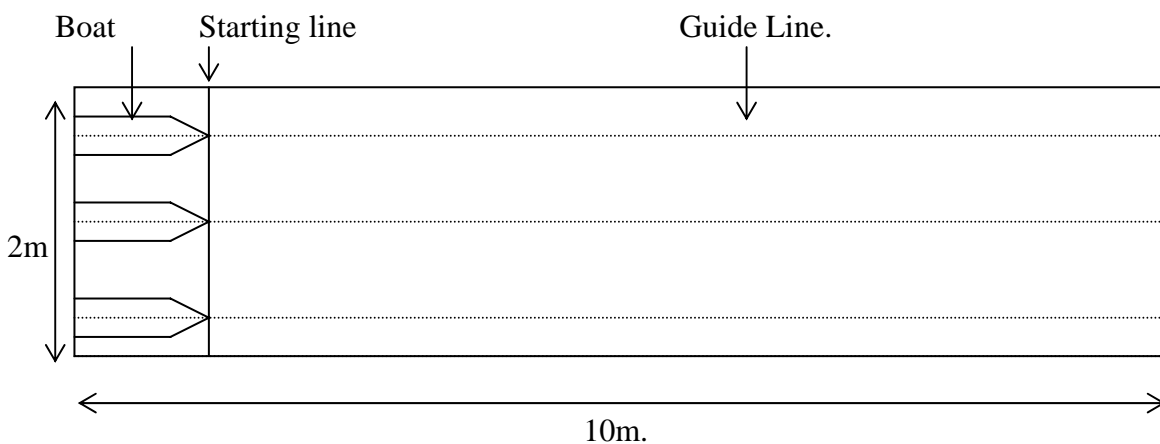

Figure 1. Layout of pool showing 3 boats lined up at the starting line.
1. The maximum boat length including any front and rear projections, shall be 550 mm to ensure that the boat fits behind the starting line. (see Fig.1)